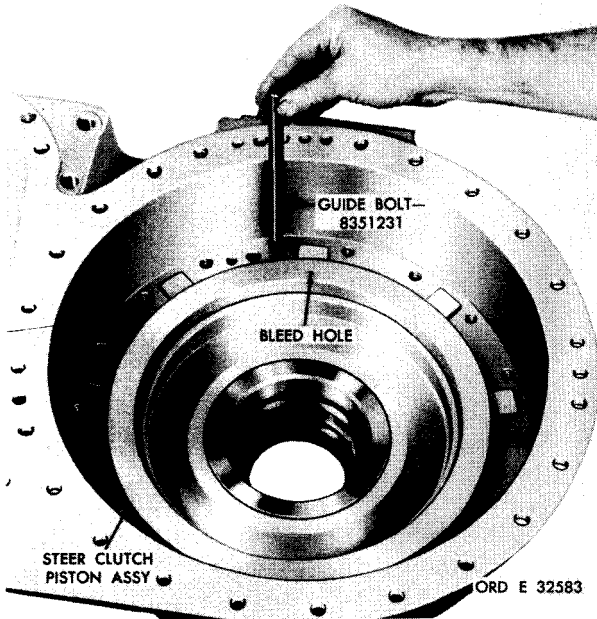

Figure 164. Installing guide bolt used to aline geared steer clutch and brake components
i. Install steer clutch piston assembly, aligning the bleed hole as shown. Install guide bolt 8351231 (fig. 164).